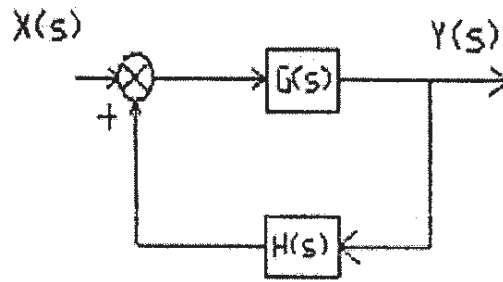

fig 1.
c) Define transfer function. Show that the overall transfer function for the system given below in fig .1 is [6]